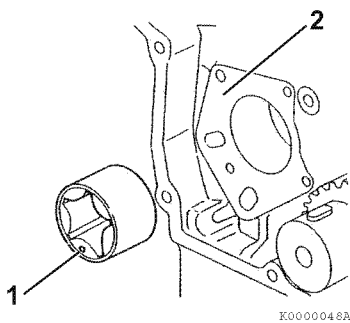

Figure 9-29
2. Reinstall the outer rotor in the gear case housing. The punch mark (Figure 9-29, (1)) on the end of the outer rotor must face away from the gear case housing (Figure 9-29, (2)).